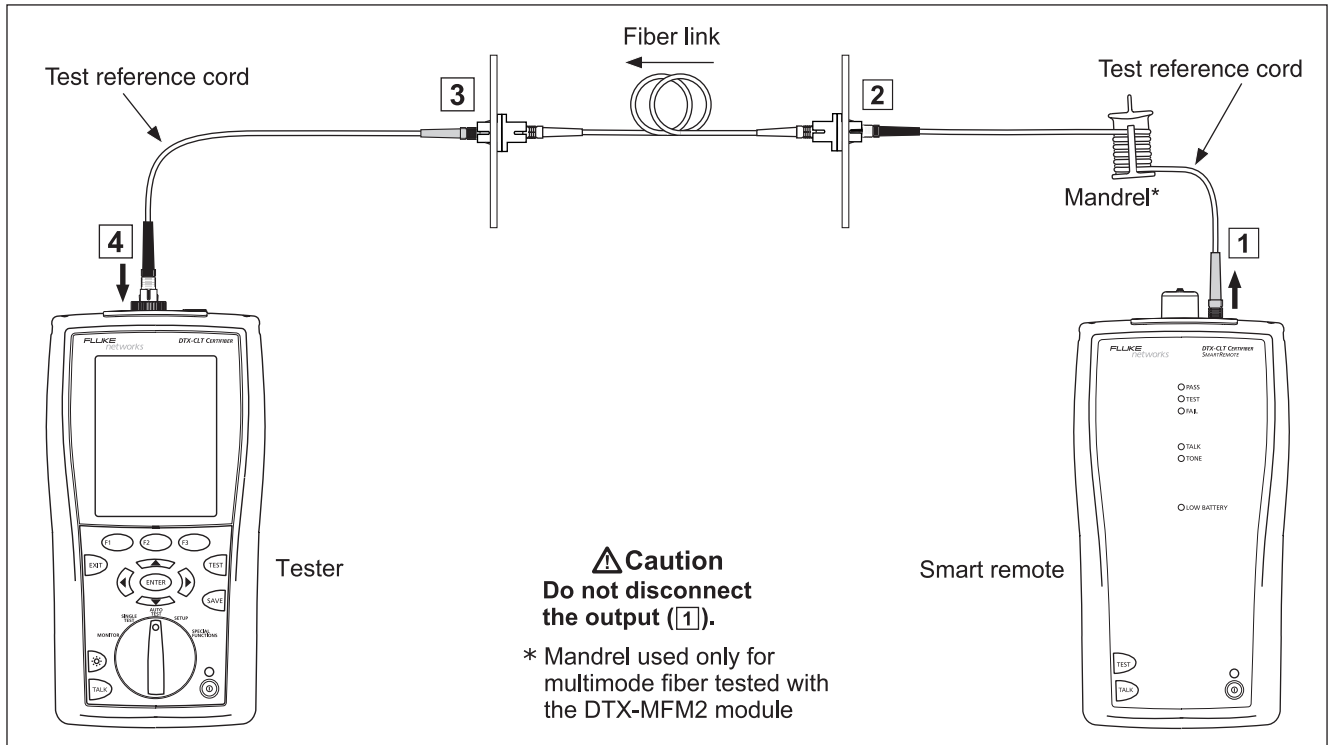

Figure 23. Testing a Link in Far End Source Mode (1 Jumper Method)
- 12 Clean and inspect the connectors on the cabling to be tested; then connect the tester and source to the cabling. The tester shows connections for the test method you selected. Figure 23 shows connections for the 1 Jumper method.